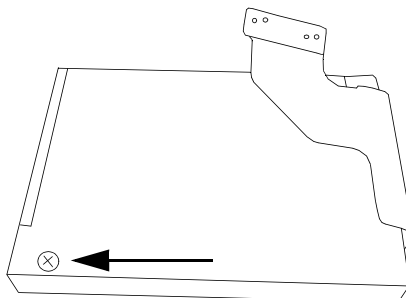

Figure 18 Hard Drive in Protective Sleeve
- (7) Remove screw from sleeve, refer to **Figure 18**.